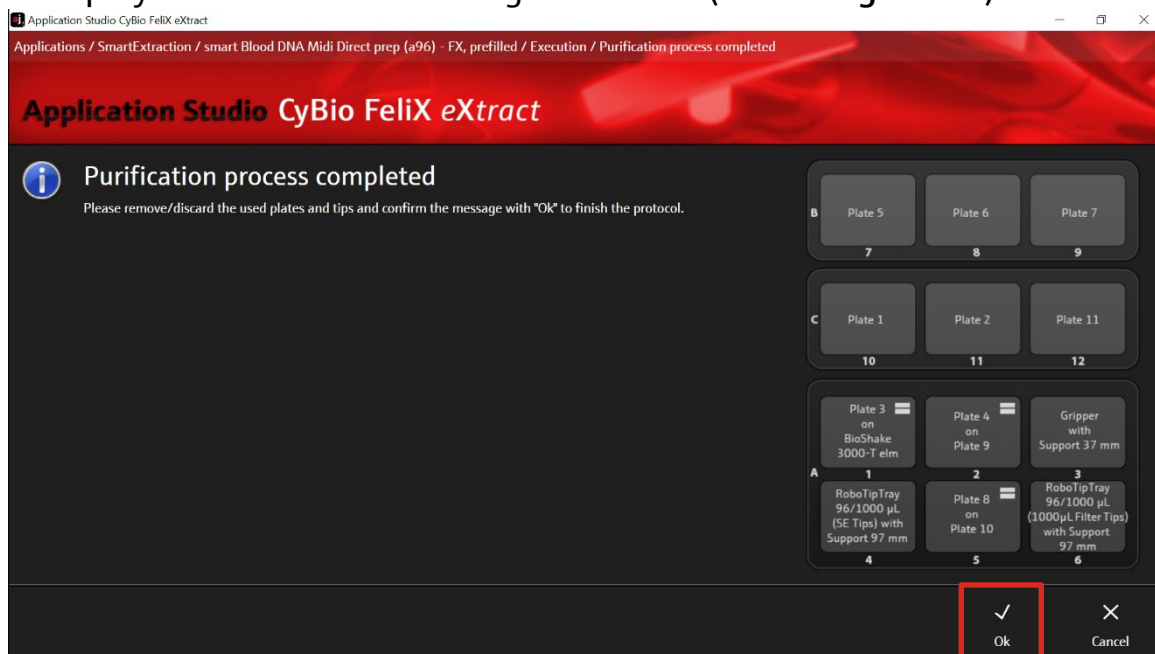

Figure 16: Purification process completed.
- The chosen protocol is performed by the device and after the protocol is finished the message “Purification process completed” is displayed. Confirm the message with “Ok” (→ see Figure 16).